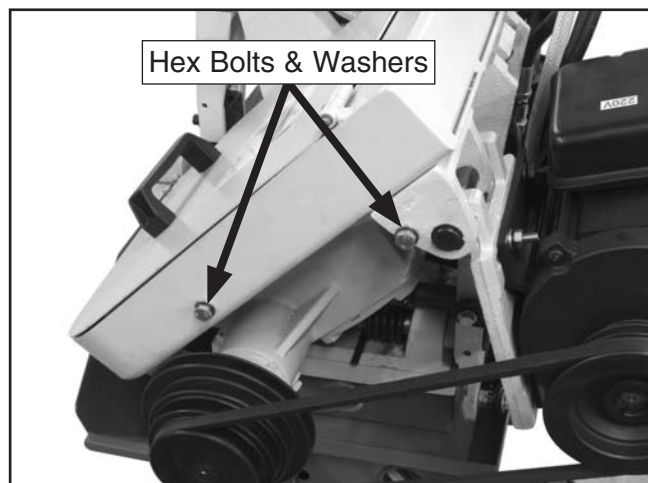

Figure 15. Belt cover hardware.
13. Remove the two hex bolts shown in **Figure 15**.